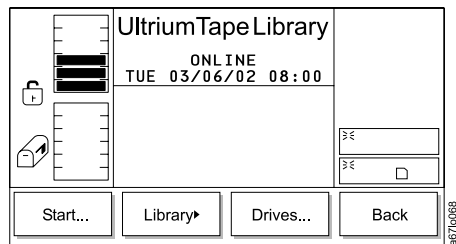

Figure 269. Service Menu
2. Press the button below the **Service** softkey. The Service Menu displays (see Figure 269).